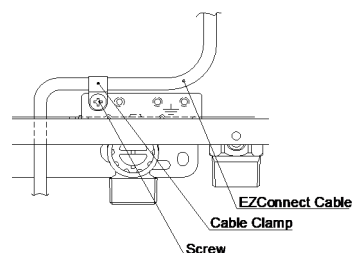

Figure 6: Tighten EZConnect™ Cable
5. Securely tighten the EZConnect™ Cable to the bottom of both water heaters by using the cable clamp and screw (Figure 6).